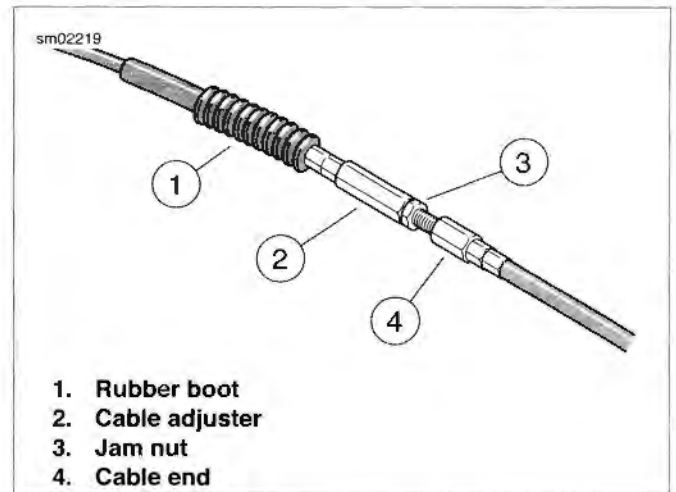

Figure 1-18. Clutch Cable Adjuster
4. See Figure 1-18. Add free play to cable.
- a. Slide rubber boot (1) off cable adjuster.
- b. Holding cable adjuster (2) with 1/2 in. wrench, loosen jam nut (3) using a 9/16 in. wrench.
- c. Turn cable adjuster (2) until there is a large amount of free play at clutch hand lever.